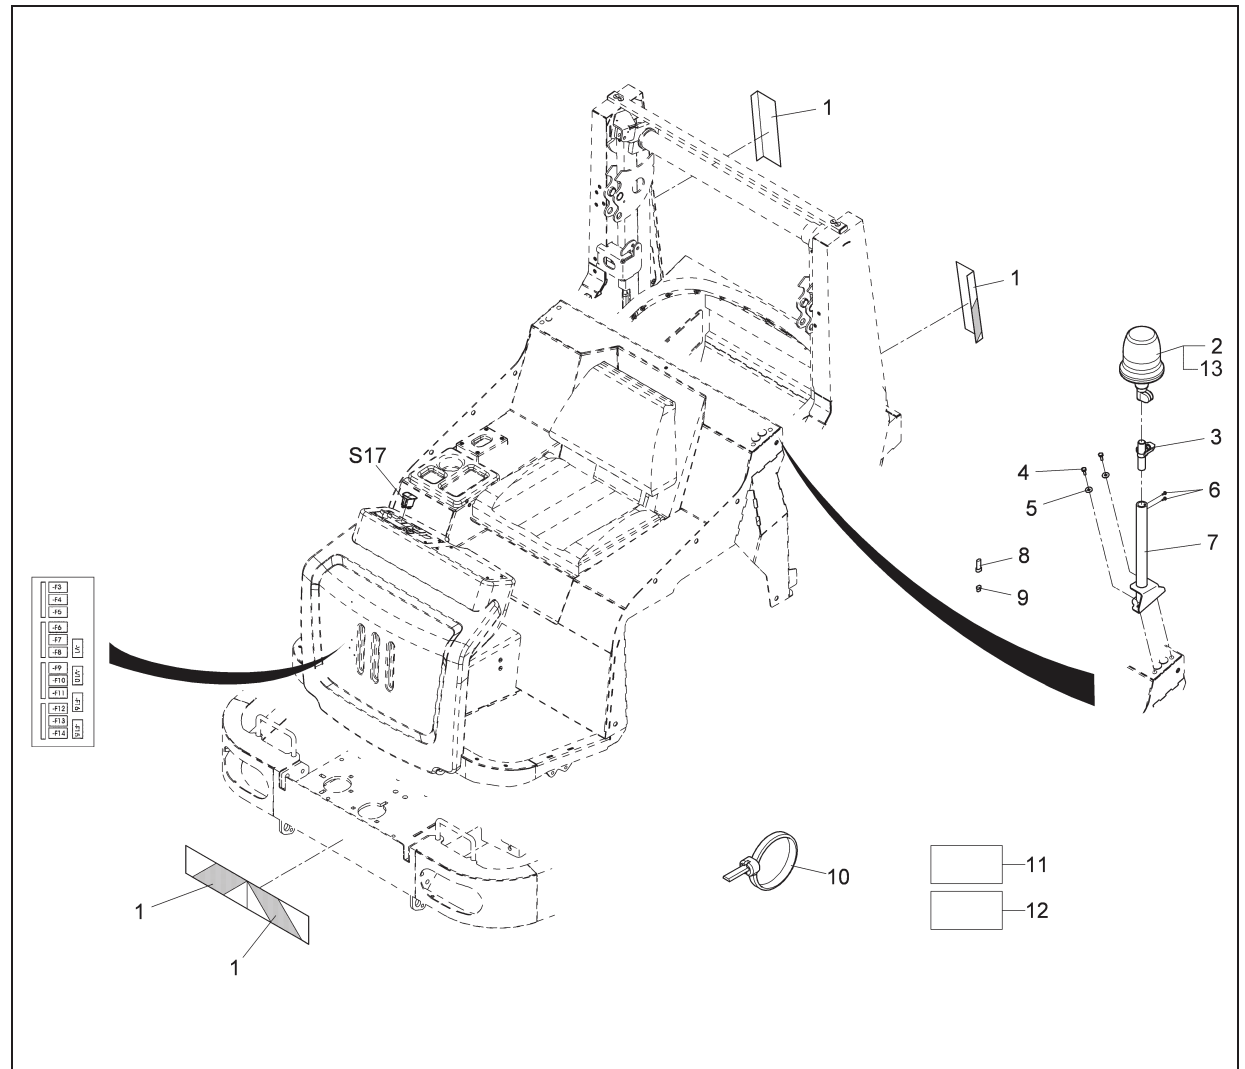

Fig.1
- Adhesive tape (Fig. 1/1)
- Flashing beacon (Fig. 1/2)
- Extension bar (Fig. 1/3)
- Holder (Fig. 1/7)
- Switch (Fig. 1/S17)
- Fuse (Fig. 1/F11) C7,5A